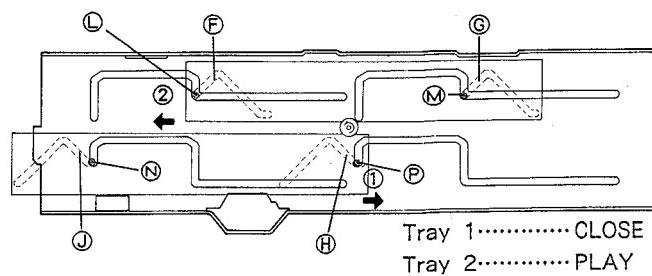
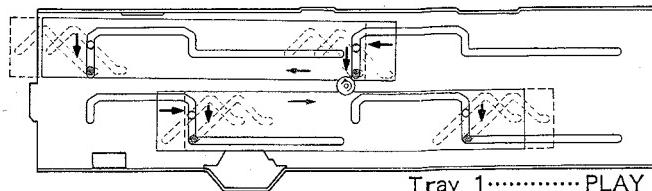

Fig. 10-7.
Fig. 10-10.
Fig. 10-7 through Fig. 10-10 show movement of tray 2 from the play position to the close position and tray 1 from the close position to the play position by the linear movement of rack U and rack L.
- From the state shown in Fig. 10-7, racks U and L move in the directions of arrows ② and ① respectively.
- When points ⑮, ⑯, ⑲, and ⑳ are passed, the rack movement is dropping along the inclined section of the grooves as shown in Fig. 10-10.